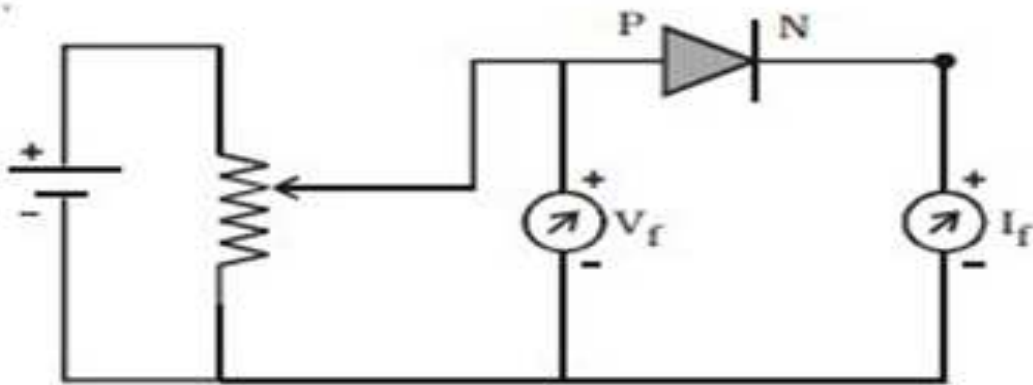

Figure 2 Forward bias
- (III) **Forward Bias:** When +ve end of battery is connected to P region and -ve end of battery connected to N region of PN junction, A electric field is set up directed from P to N inside the semiconductor. When the external voltage exceeds the junction barrier potential, the holes move from P to N region and electrons move from N to P region. The moving majority charge carriers constitute current which increases on increasing external voltage and become saturated after some vale of external voltage. This biasing is called forward bias as shown in Figure 2.
25. Make connection as shown in circuit diagram (figure 2).